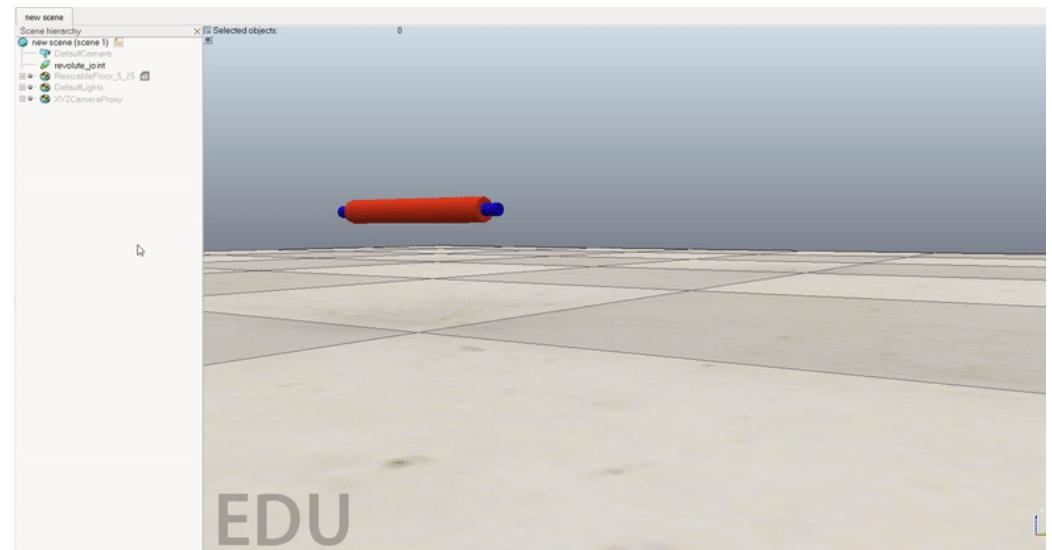

Figure 4: Check the Motor enabled and Control loop enabled option for the required revolute joints.
- Refer the gif in Figure 4 to check the **Motor enabled** and **Control loop enabled** option for the required revolute joints.